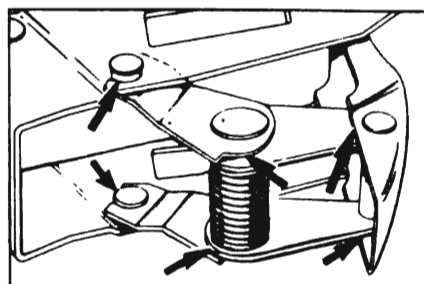
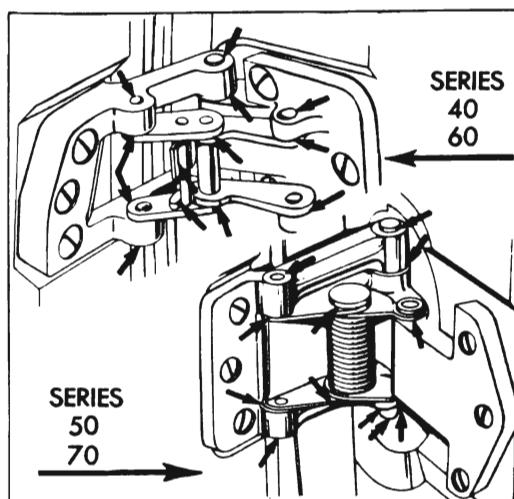

Figure 1-13—Door Check and Hold-Open Link
Figure 1-14—Rear Door Lower Hinge
8. *Door Checks and Hinges.* Apply Lubriplate to hold-open springs in front door hinges. On models having door check and hold-open links, remove links from upper hinges, wipe off dirt, and apply Lubriplate solution (*) to pivot points indicated by arrows in figure 1-13. Apply lubriplate solution (*) to rear door lower hinges at pivot points indicated by arrows in figure 1-14.